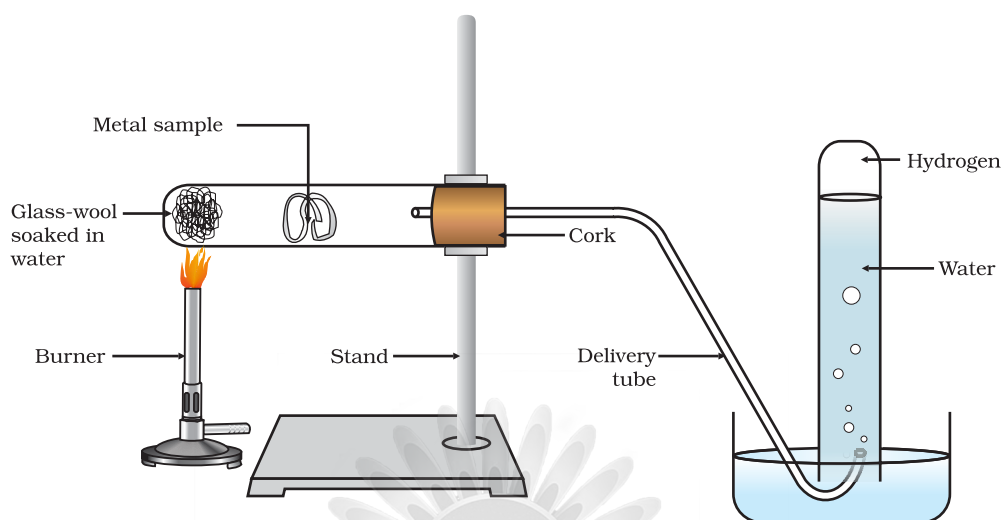

Figure 3.3 Action of steam on a metal
- For the metals that did not react with hot water, arrange the apparatus as shown in Fig. 3.3 and observe their reaction with steam.